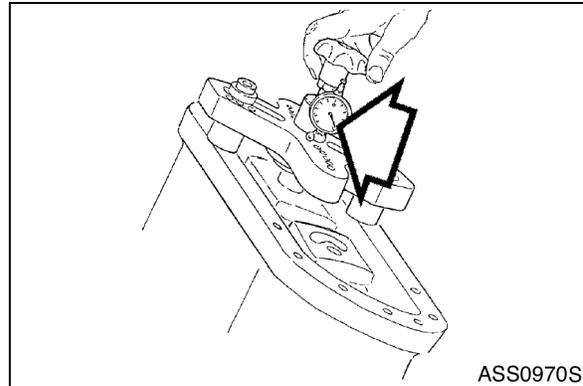

**Figure 97**
B. Size 140 - 200 (Figure 97).